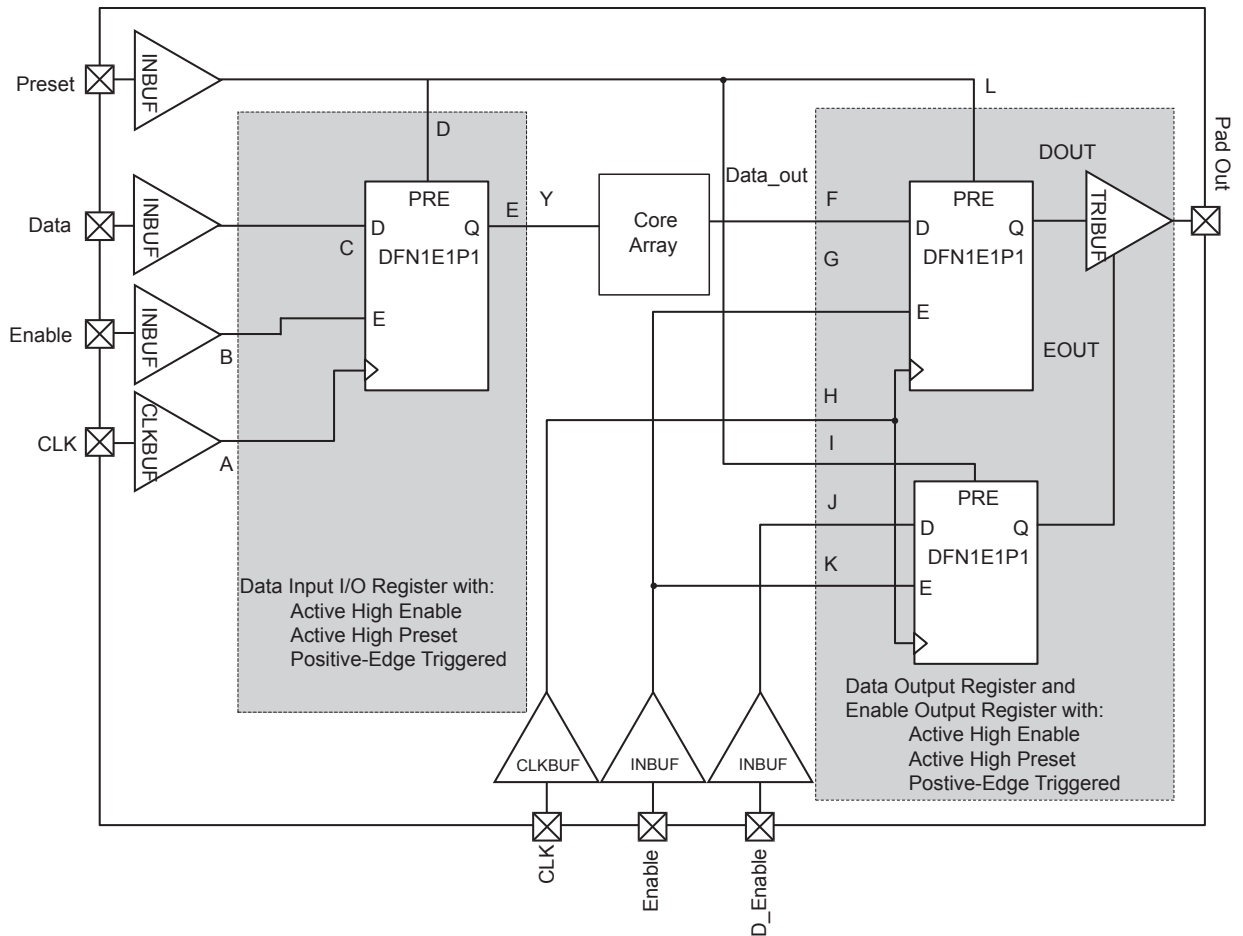

**Figure 2-15 • Timing Model of Registered I/O Buffers with Synchronous Enable and Asynchronous Preset**
**Note:** \*See Figure 2-15 on page 2-69 for more information.